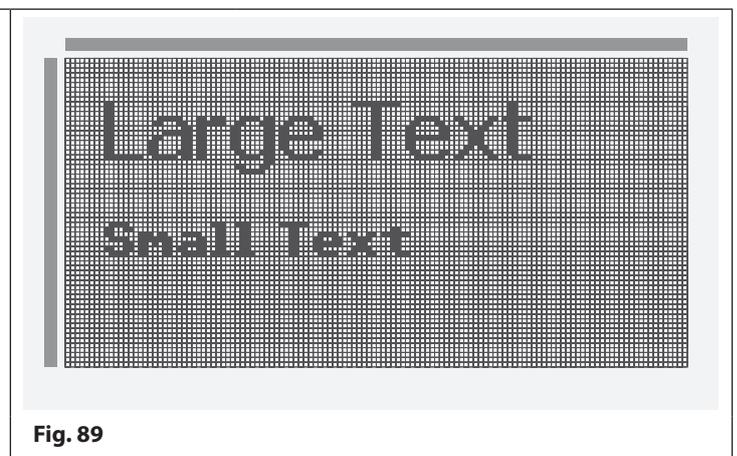

Fig. 89
- The text entered into the field will appear in the main editing area where the pointer was last positioned, as shown in **Fig.89**.